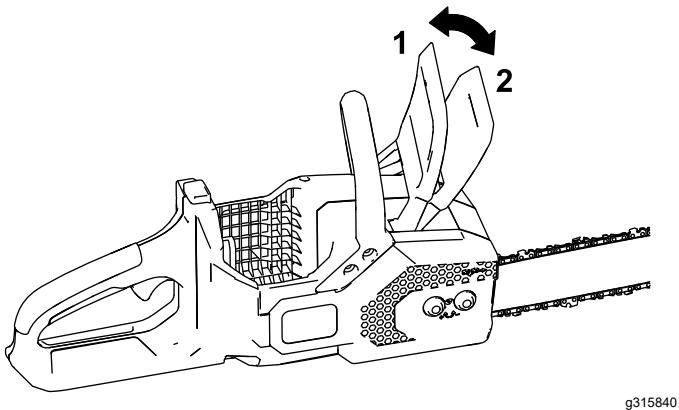

Figure 25
- Engage the chain brake by moving the chain brake forward to the STOP position (Figure 25).
4. Disengage the chain brake by moving the chain brake rearward to the OPERATING position (Figure 25).
4. Ensure that the chain brake is in the OPERATING position (Figure 25).